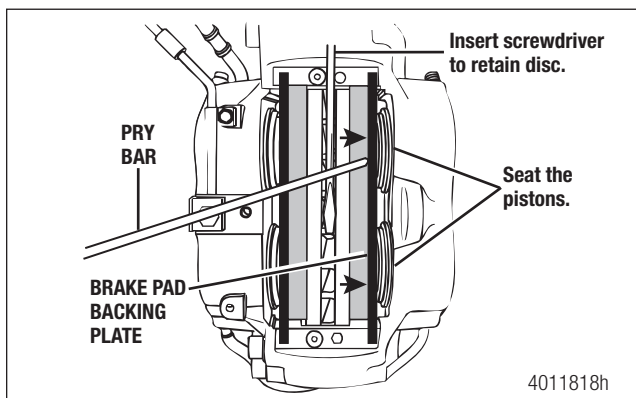

Figure 4.3
7. Install a screw driver into the veins of the rotor. Using the screw driver as a fulcrum, use a pry bar to apply force to the brake pad backing plate to help seat the pistons. Figure 4.3.
8. Remove the brake pads from the caliper and brake pad wear plates. Figure 4.3.